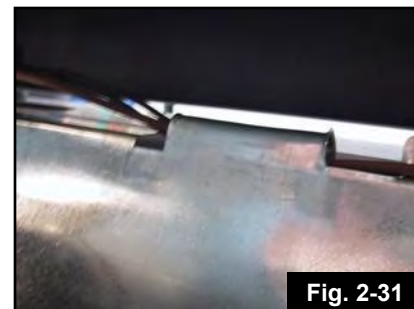

Fig. 2-31
1. These stove have channels on the sides which house the existing element wires as shown (Fig. 2-31) run the thermocouple wire inside the channel.